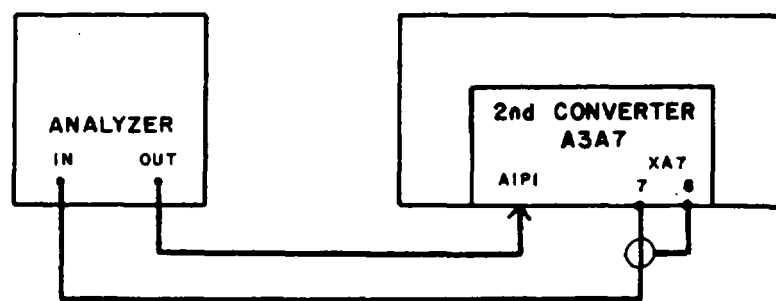

Figure 4-18. 2nd Converter Alignment, Equipment Connections
5. Connect the RF Analyzer to the 2nd Converter, as illustrated in **Figure 4-18**.